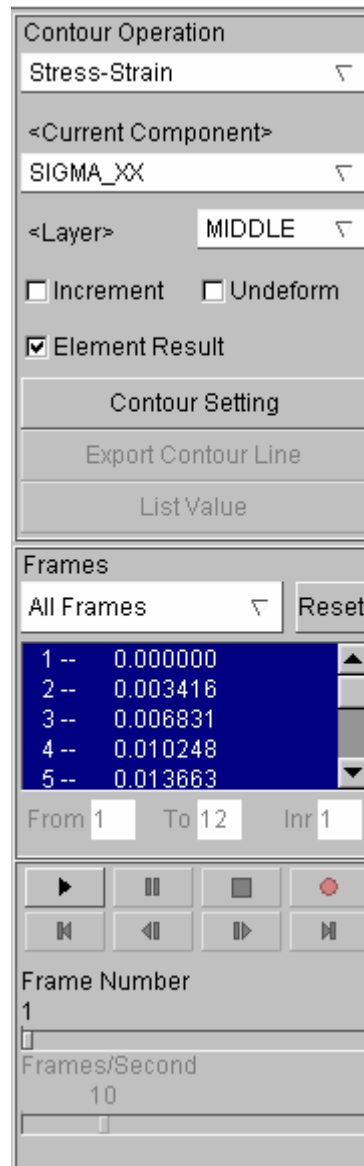

Figure 7.7 Animate Contour control window
The functions in this menu enable the user to animate the element stress/strain and related results in real time. The color bar, located on right hand side of graphic window, displays the corresponding contour values. The location of the highest contour value in the model is labeled with an asterisk (*) and the lowest is labeled with a zero (0). The functions in this menu are shown in Figure 7.7 Select Stress-Strain or Displacement in Contour Operation firstly, and then select Current Component to operate. The operation process is shown as follow.